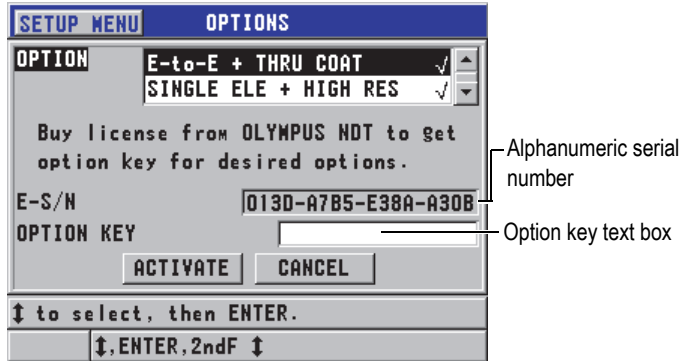

Figure 6-1 The **OPTIONS** screen
2. In the **SP MENU** (see Figure 4-2 on page 45), select **OPTIONS** (see Figure 6-1 on page 69), take note of the 16-digit alphanumeric serial number appearing in the **E-S/N** field.
4. In the **OPTIONS** screen (see Figure 6-1 on page 69):